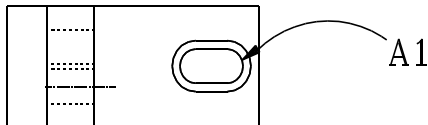

Figure 21
83. Click on A1 (the .25R arc). (See Figure 21.)